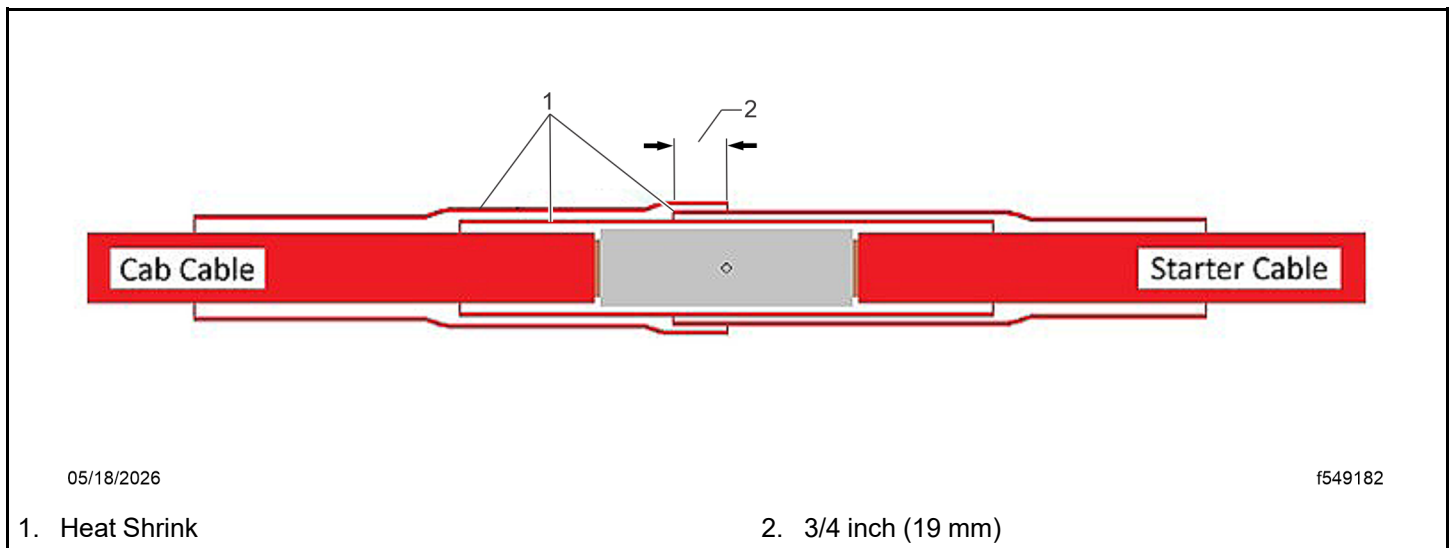

Fig 154, Heat Shrink Insulation
40. Insulate the butt connection with heat shrink sleeves. See Fig. Fig. 154.